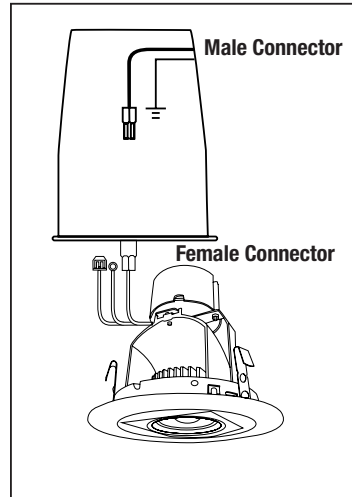

FIGURE 4
1. Connect orange female to male connector and ground wire of the fixture to housing (Fig.4).